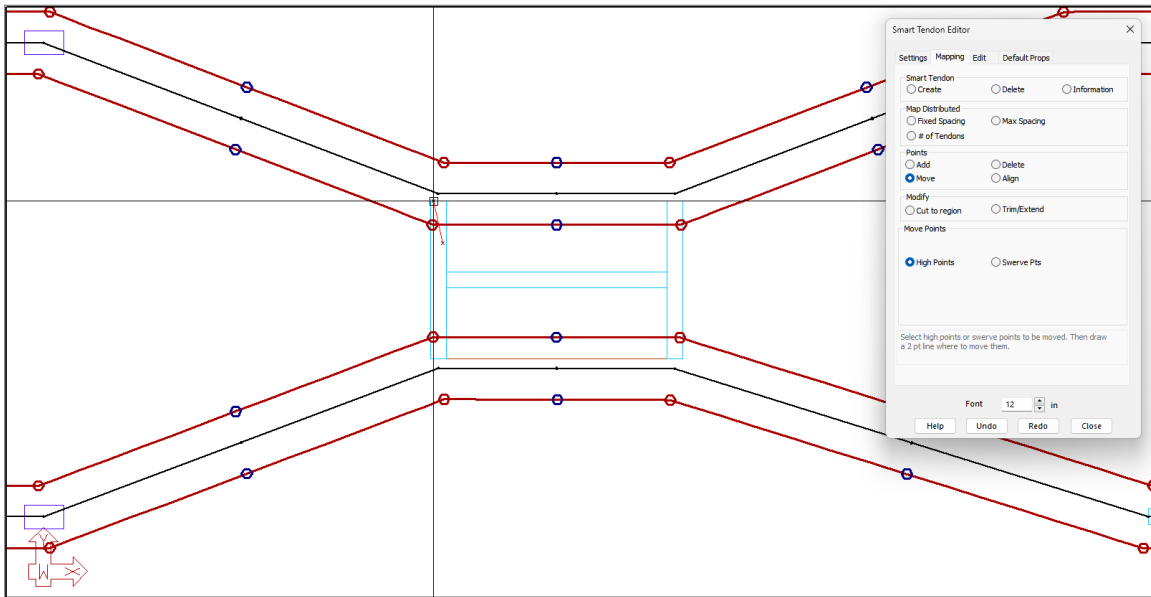

FIGURE 9-52
- Draw your first construction line through the top tendon, in the span running through the opening, near the left high point, as shown in **FIGURE 9-52**.